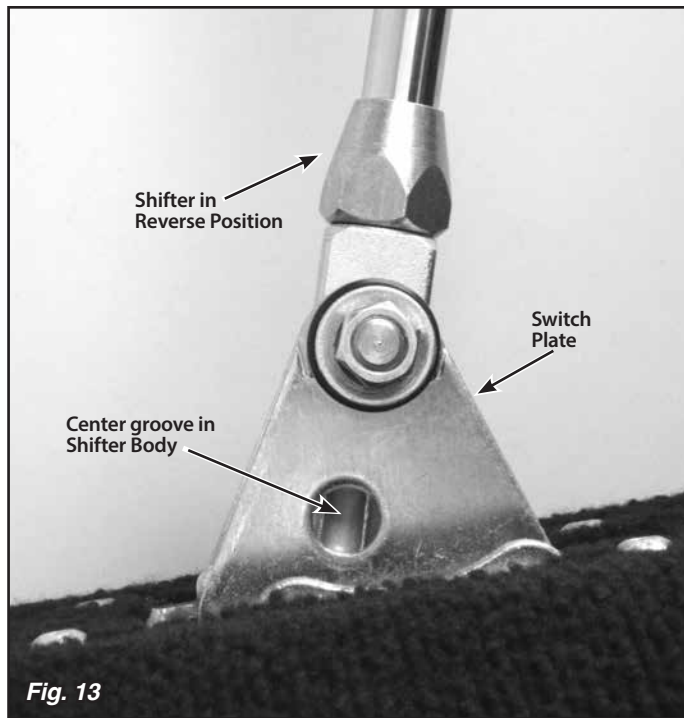
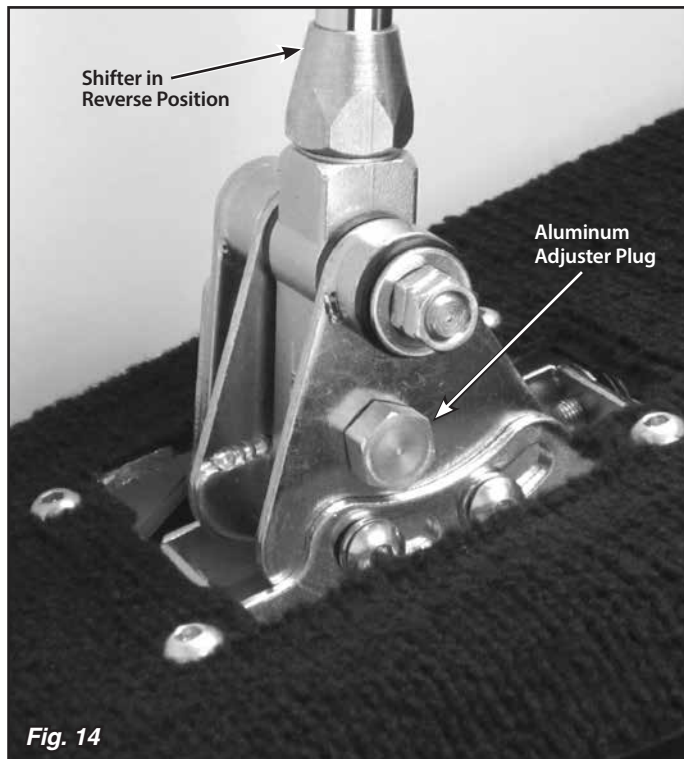

Fig. 13
Fig. 14
Step 19: Put the shifter into the Reverse position. Reposition the switch plate so that the hole in the switch plate lines up with the center groove in the shifter body. **Fig. 13** Screw the provided aluminum adjuster plug into the neutral safety switch opening. Wiggling the switch plate slightly forward and back while you are screwing the aluminum adjuster plug in will help get the shifter body centered on the adjuster plug. **Fig. 14**